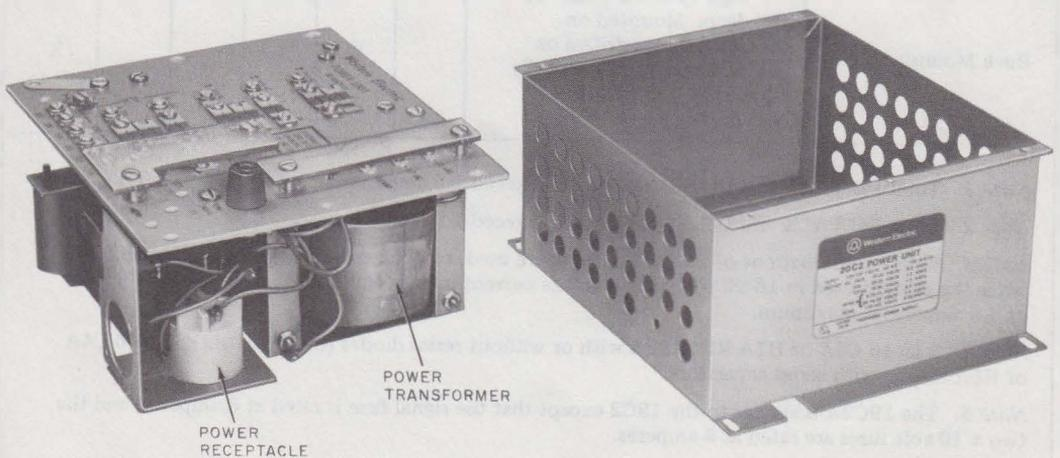

Fig. 4—20C2 Power Unit (Rack Mounted) Enclosure Removed to Show Power Receptacle
20C2—20A2 with hardware for mounting in a Key Service Unit or relay rack (see Fig. 4).
(1) Fasten the backboard plate assembly, P33A830, to the wall as covered in Section 463-130-200, or in accordance with local instructions.
(2) Hang the power unit on the backboard and secure it with the machine screws provided.
3.03 The 20C2 power unit is mounted on an equipment rack using the four mounting holes on the metal enclosure (Fig. 4). Fasten with the machine screws provided.
provided on the mounting flange on the 20C2 unit (see Fig. 4). Dress the wires along the left side of the panel and below the ground terminals.